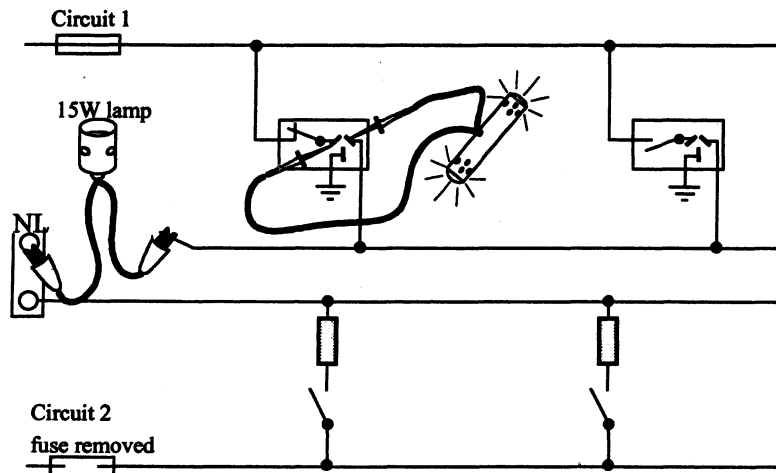

Figure 8.5
- (A) an interconnection between the two circuits
- (B) low insulation resistance
- (C) a short circuit between neutral and earth
- (D) neutral conductor continuity.
- (A) cannot be used for individual cooking units
- (B) cannot be used for two or more final subcircuits
- (C) can be used for two or more lighting circuits
- (D) can be used for two or more socket outlet circuits.
3. Using the testing arrangements of Figure 8.5, a 'bright' test lamp would indicate:
- (A) interconnection between the earthing conductors of circuits 1 and 2
- (B) interconnection of the neutral conductors of circuit 1 and the earthing conductor of circuit 2
- (C) interconnection of the neutral conductors between circuits 1 and 2
- (D) interconnection of the neutral conductor of circuit 1 and the active conductor of circuit 2.